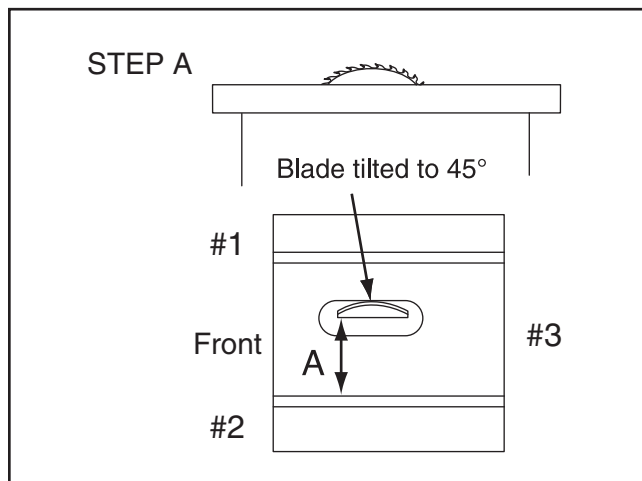

Figure 110. Shim procedure diagram A.
9. Loosen (4) table mounting bolts from **Step 6**.
10. Refer to **Figures 110–111** for shim placement. If distance A is shorter than B, shim(s) will need to be placed under corners #1 and #2. If distance of B is shorter than A, shim(s) will need to be placed under corner #3. Very thin shim stock works well.